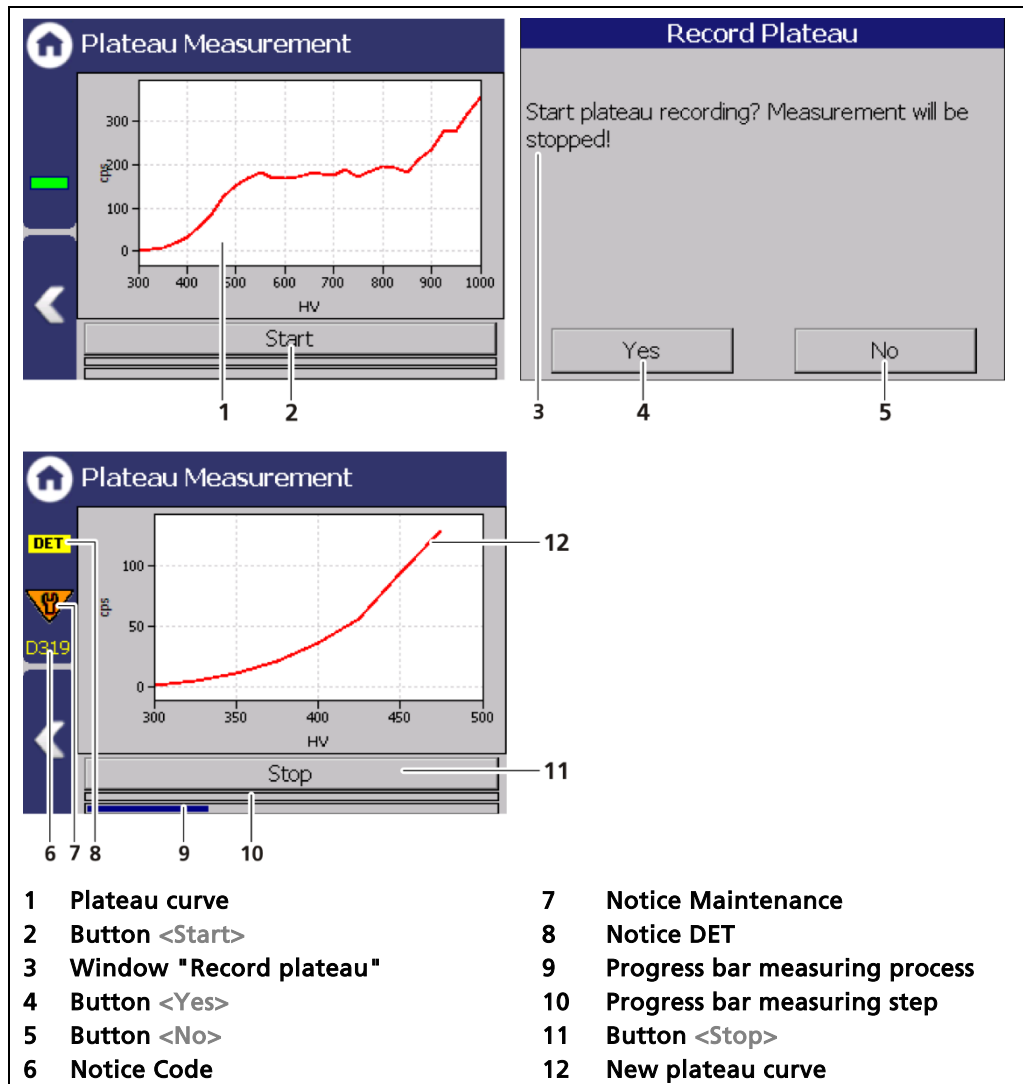

Fig. 66 Recording a plateau curve
- Click on <Start> (Fig. 66, item 2) to carry out a plateau measurement.
- The confirmation message "Record plateau" (Fig. 66, item 3) opens.
- Confirm with <Yes> (Fig. 66, item 4).
- The EVU switches to mode "DET" (Fig. 66, item 8) and the current measurement is stopped.
- The information (Fig. 66, item 6 - 8) from the plateau measurement are displayed in the status information. The LED Run flashes on the EVU during the plateau measurement. The LED "Warning" lights up at the same time.